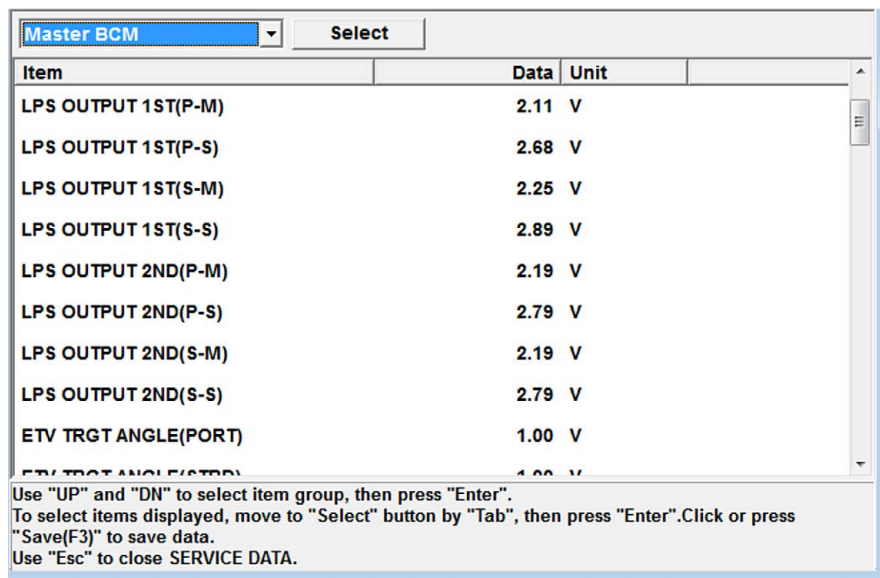

Figure 7-8. Service Data. Sample of typical values
- Cycle the power (off for thirty seconds) and then click **System Check** on the SDS home screen. This will bring up a window displaying Service Data. Check that there are eight LPS Output(...) items in the list with an associated voltage reading for each. See figure 7-8.